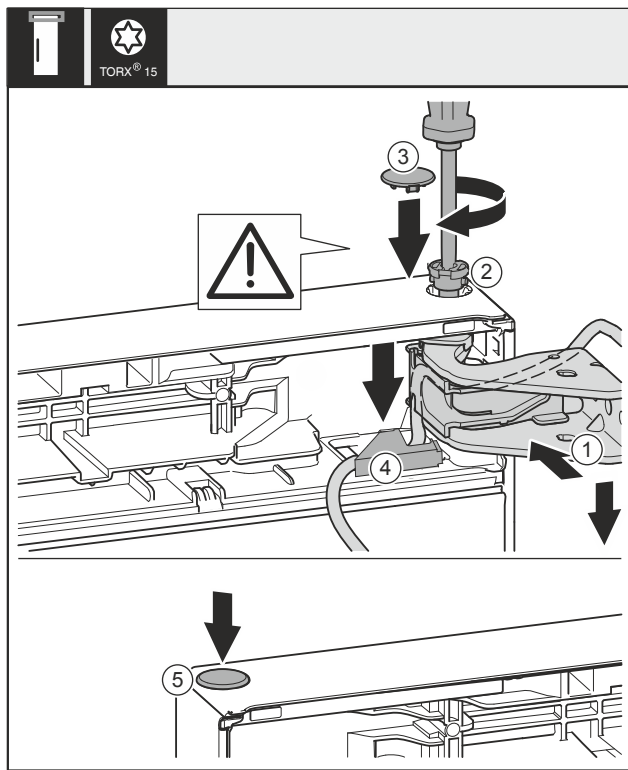

Fig. 34
- ▶ Align the door on the top towards the opening in the swap bearing block Fig. 34 (1).
- ▶ Insert the pin Fig. 34 (2) and tighten it with the screwdriver.
- ▶ Mount the safety cover to protect the door: Insert the safety cover Fig. 34 (3) and check whether it is positioned on the door. If so, insert the pin completely.
- ▶ Insert the cover Fig. 34 (4) and press it down until it snaps down.
- ▶ Insert the plug. Fig. 34 (5)